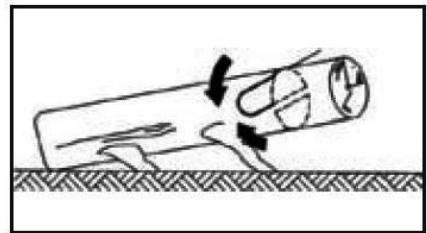

Fig. 4B
- **Log supported on 1 end:** first, cut from bottom (underbuck) 1/3 diameter of log to avoid splintering. Second, cut from above (over buck) to meet first cut and avoid pinching (Fig. 4B).